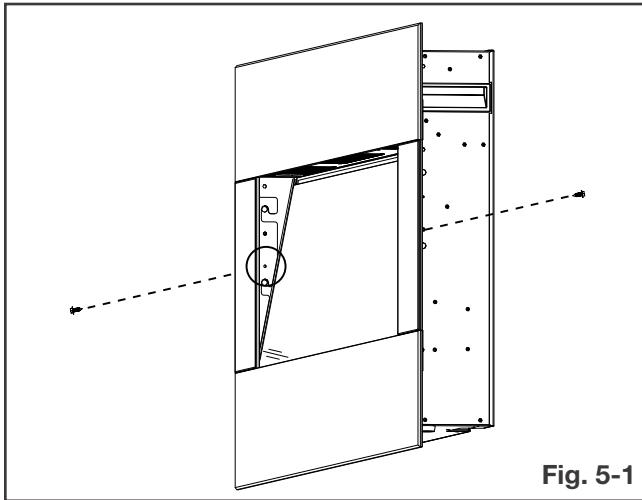

Fig. 5-1
- Remove the two screws securing the front surround place (Fig. 5-1).